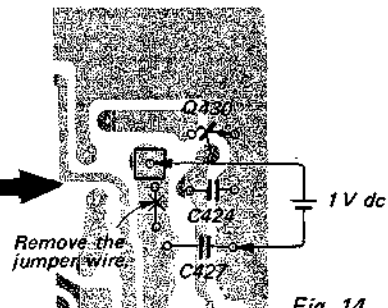

Fig. 14
1. Disconnect the jumper wire, and supply 1V dc as shown in Fig. 14.